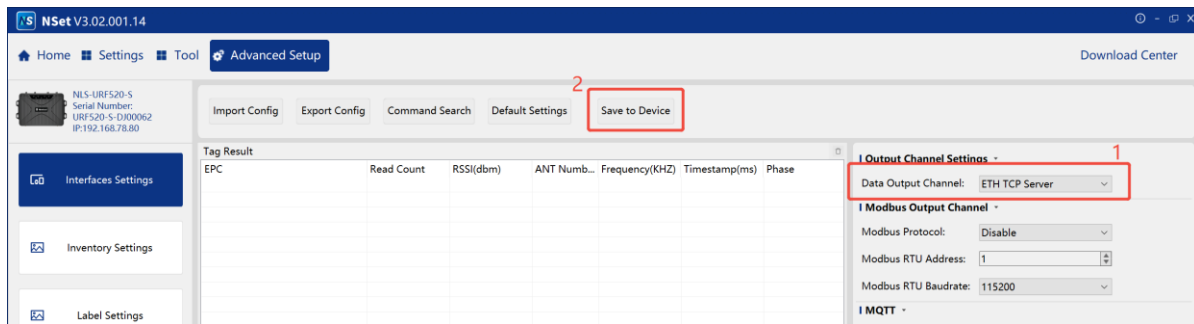

Figure 3-1
- (1) The URF device acts as a TCP server, and the host acts as a TCP client to actively initiate a connection. The URF device default IP is 192.168.1.101, port 8058. The IP can be modified using NSET as needed.
- (2) Use NSET to connect to the device and enter the settings interface, as shown in Figure 3-1. Set the data output channel to Ethernet TCP Server, then save to the device, and finally exit NSET.